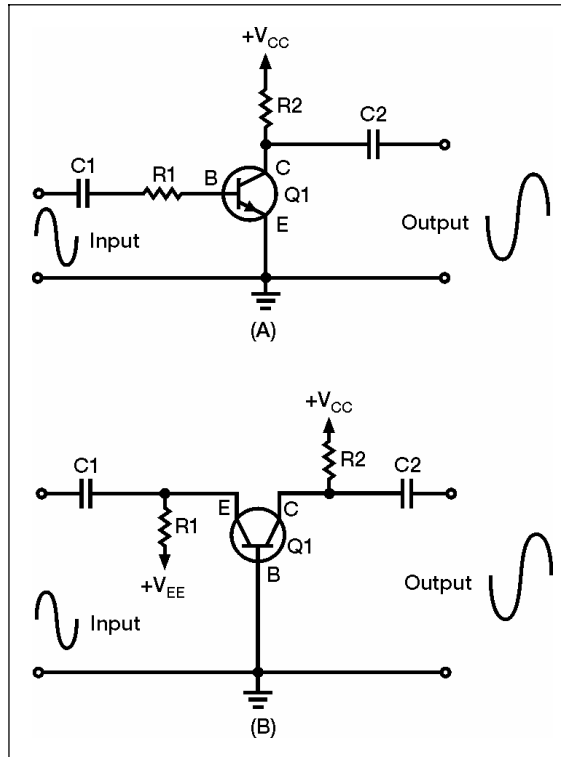

Figure 7-1. Common Emitter and Common Base Amplifiers
7-10. You should be familiar with some amplifier circuits, which should give you an idea of what a difference amplifier is like. Figure 7-1 shows two of the basic configurations for transistor amplifiers (the CE and the CB).
7-11. Figure 7-1, view (A) shows a CE amplifier. The output signal is an amplified version of the input signal and is 180 degrees out of phase with the input signal. View (B) is a CB amplifier. In this circuit, the output signal is an amplified version of the input signal and is in phase with the input signal. In both of these circuits, the output signal is controlled by the base-to-emitter bias. As this bias changes (because of the input signal) the current through the transistor changes. This causes the output signal developed across the collector load (R2) to change. None of this information is new; this is just a review of what you have already been shown regarding transistor amplifiers.